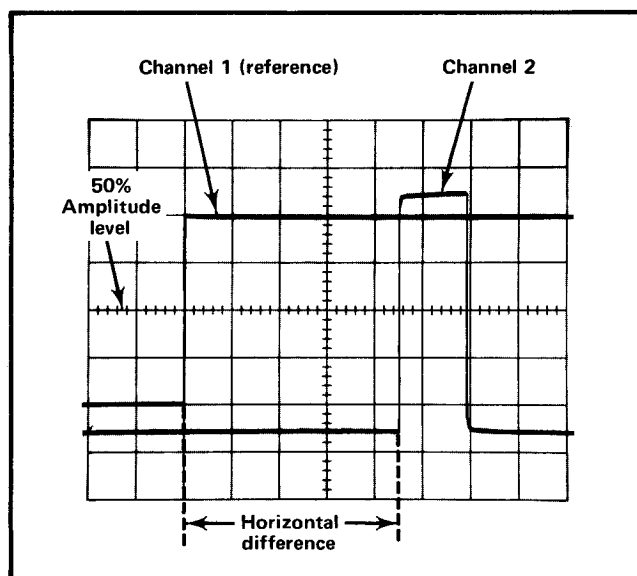

Fig. 2-23. Measuring time difference between two pulses.
11. Measure the horizontal difference between the Channel 1 waveform and the Channel 2 waveform (see Fig. 2-23).
Example. Assume that the TIME/DIV switch is set to 50 μ s, the MAG switch to X10 and the horizontal difference between waveforms is 4.5 divisions (see Fig. 2-23).